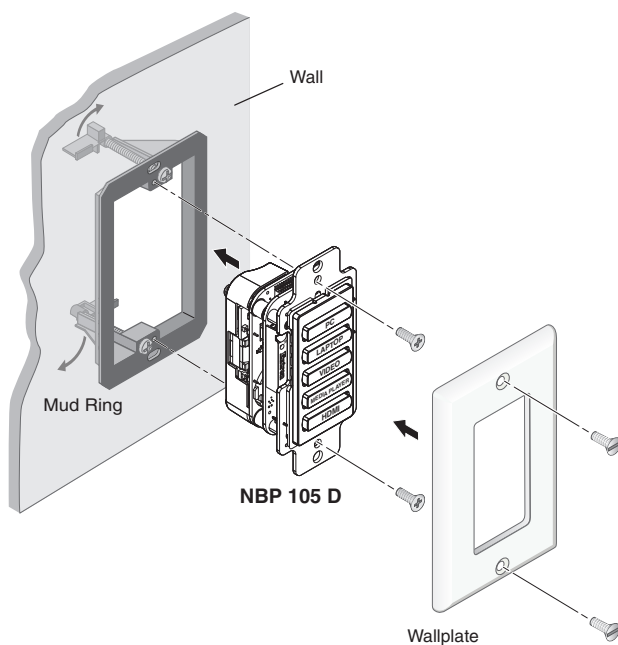
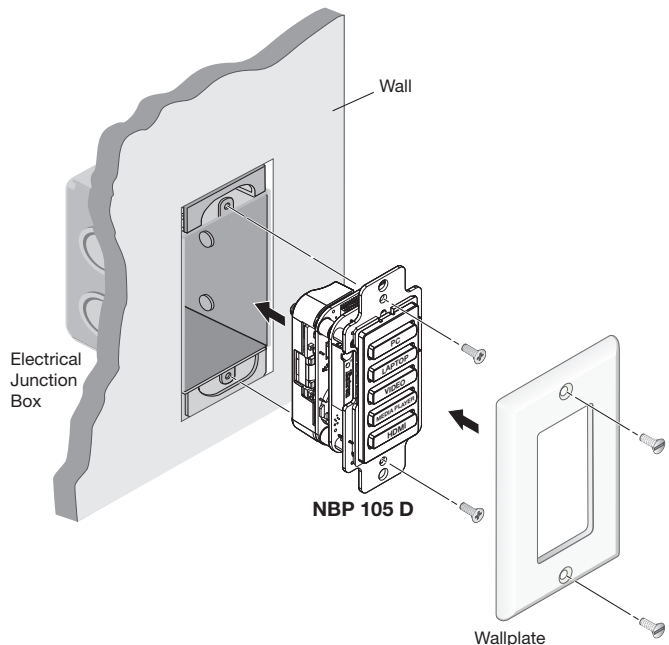

Figure 19. Installing the NBP 105 D in a Mud Ring
Figure 20. Installing the NBP 105 D in a Junction Box
2. Secure the NBP to the junction box, wall or surface mounting box, or mud ring as follows (see figures 19 to 22):
- a. **For decorator-style models:** Insert the included screws through the mounting holes at the top and bottom of the NBP and into the corresponding threaded holes in the box or mud ring (see figure 19 and figure 20).
- **For decorator-style models:** Insert the included screws through the circular holes in the wallplate and the tabs on the NBP (see figure 19 and figure 20 on page 19). Hand tighten the screws using a flat bladed screwdriver until snug.